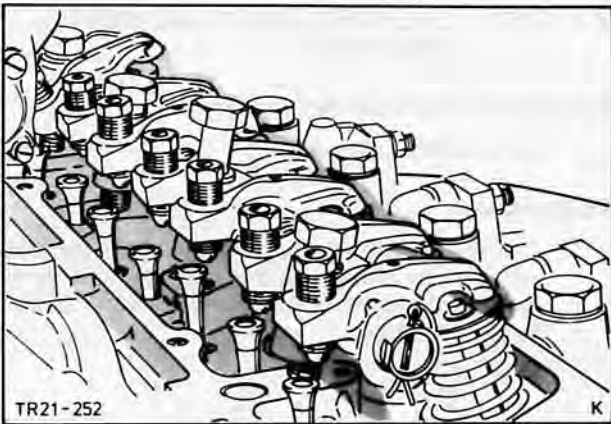
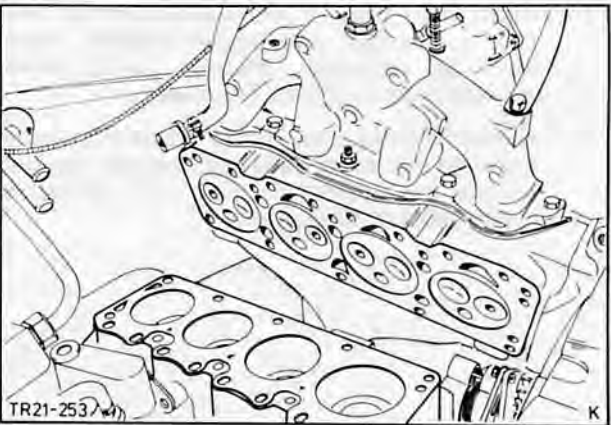
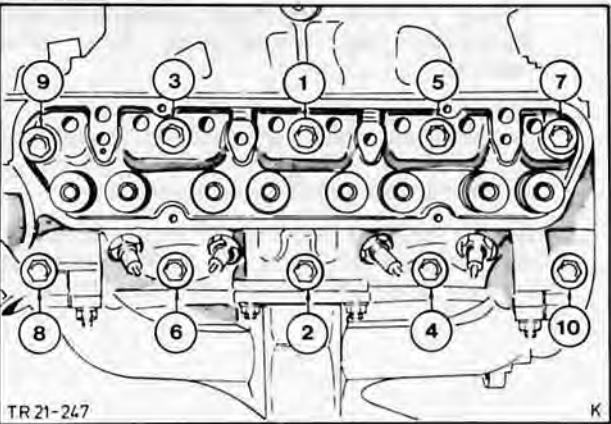

Fig. 127. Remove rocker shaft
Fig. 128. Replace cylinder head
Fig. 129. Cylinder head bolts, tightening sequence
7. Remove spark plugs, rocker cover and rocker shaft (4 bolts each), Fig. 127. Take out push rods and remove cylinder head bolts, slackening bolts in reverse order to tightening (see tightening sequence in Fig. 129). Detach cylinder head.
9. Fit cylinder head, Fig. 128. Insert cylinder head bolts finger tight. Take out locating studs and replace them by the last two bolts. Cylinder head bolts should then be tightened to specified torque in four stages in order shown in Fig. 129, using Special Tool 21-034.